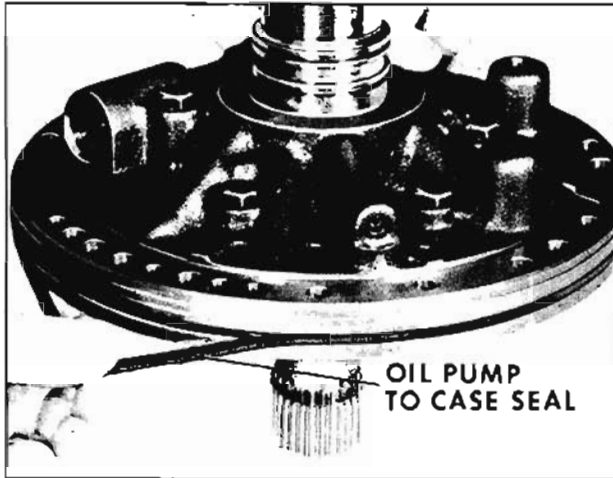

Fig. 6-340 Installing Oil Pump to Case Seal
4. Install new oil pump to case seal. (Fig. 6-340)